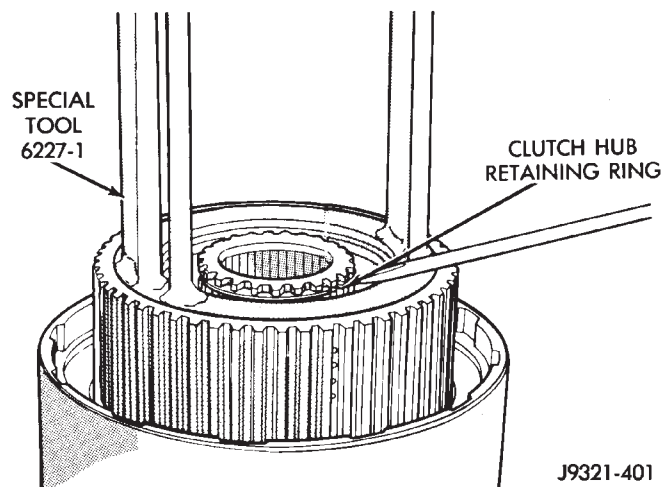

Fig. 237 Clutch Hub Retaining Ring Installation
- (25) Install clutch hub retaining ring (Fig. 237). **Be very sure retaining ring is fully seated in sun gear ring groove.**
- (26) Slowly release press ram, remove compressor tools and remove geartrain assembly.